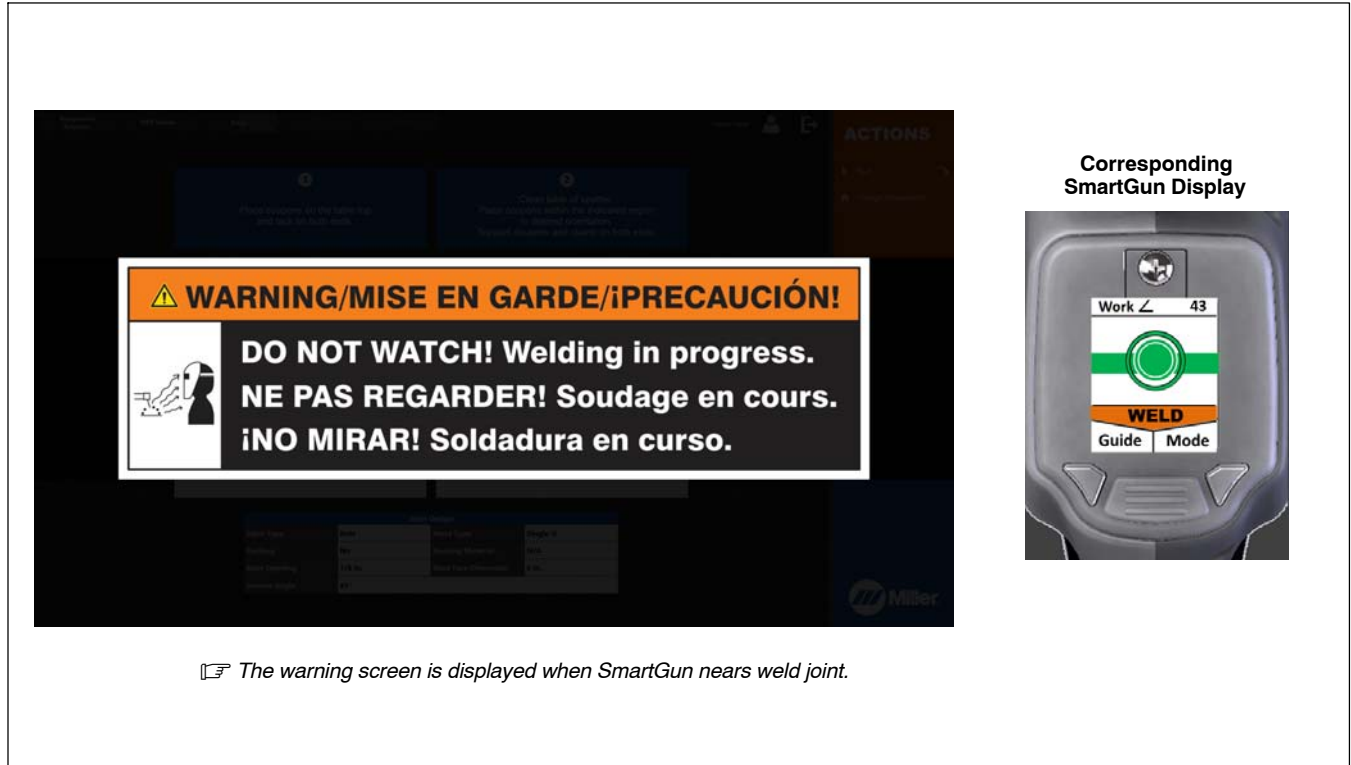

Figure 7-19. Selecting LiveArc Mode
2. Press and hold Mode button on SmartGun until system enters weld mode (about two seconds). The warning message is displayed when the SmartGun nears the weld joint (Figure 7-19).